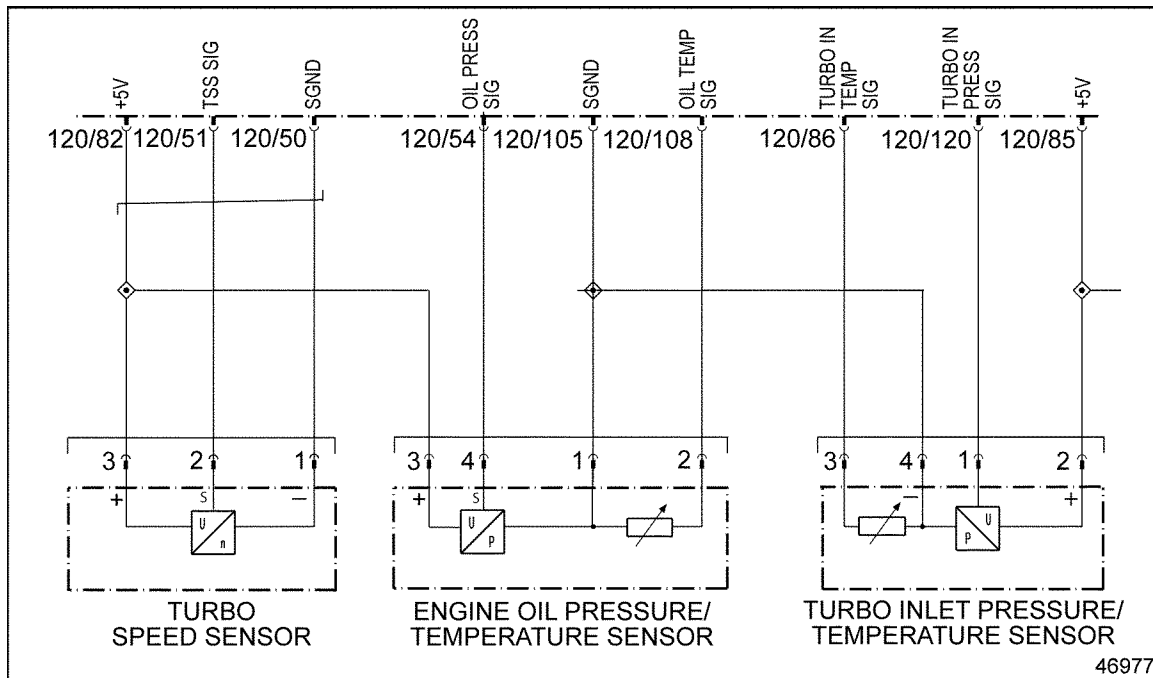

Figure 8-1 Turbo Speed Sensor Terminal and Wire Locations
2. Measure the resistance across pins 1 and 2 of the sensor (see Figure 8-1).
- [a] If the voltage is between 4.5 and 5.5 volts, repair the open circuit between pin 1 of the TSS harness connector and pin 50 of the 120-pin MCM connector. See Figure 8-1. Refer to section 8.3.2.1.
- [b] If the voltage is less than 4.5 volts, repair the open circuit between pin 2 of the TSS harness connector and pin 51 of the 120-pin MCM connector. See Figure 8-1. Refer to section 8.3.2.1.